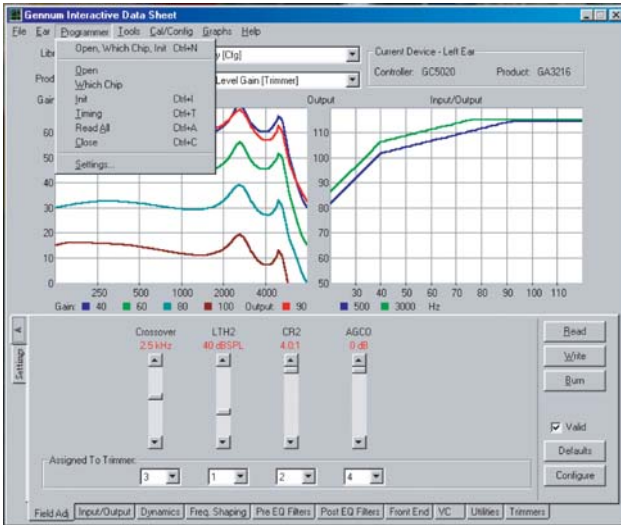

Fig. 2 IDS screen shot.
- To begin, connect the GA3216 up to a programming box (i.e. HIPro or Gennum's DSP programmer). With the above library and product selected (See step 3) click on the Programmer tab and select the Open, Which Chip, Init option. (See Fig. 2). If a dialog box appears, select the Burn Current option. This will configure the GA3216 with the default settings from the Demo Library.